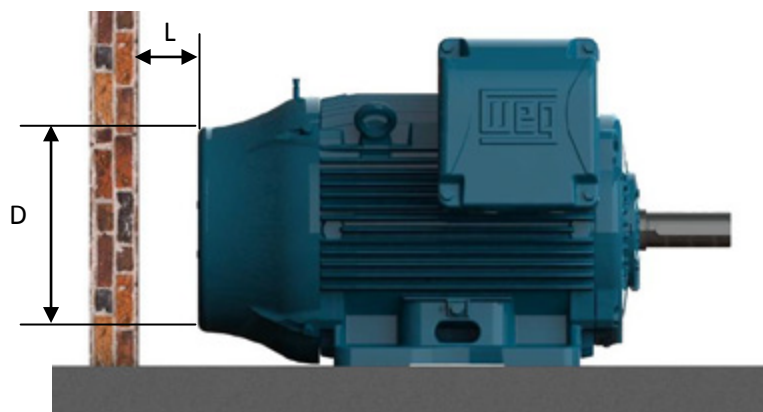

Figure 7.1- Minimum clearance to the wall
- Ensure that the air inlet and outlet opening are not blocked. The minimum clearance to the nearest wall (L) should be at least $\frac{1}{4}$ of the fan cover diameter (D), see Figure 7.1. The intake air temperature must be at ambient temperature.